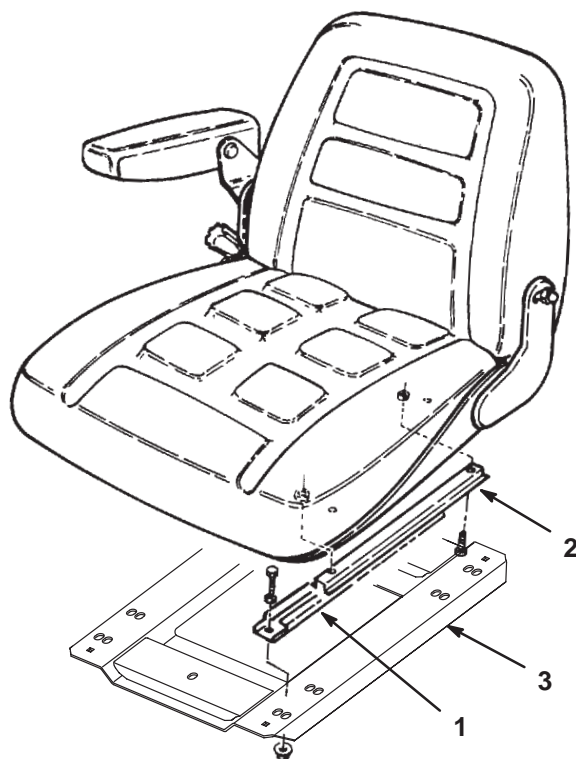

Figure 3
1. Remove the shipping ties securing the lower seat slides to the upper seat slides. Note the orientation of the lower slides for correct reinstallation (Fig. 3).
2. Insert the lower slides onto the upper slides (Fig. 3).
4. Loosely secure slides to seat plate with fasteners supplied with seat (Fig. 3).